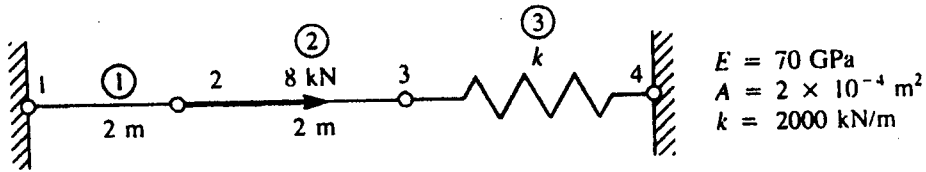

Fig. 2
- b) For the bar assemblage of two bars and one spring shown in Fig. 2, determine the nodal displacements at nodes 2 and 3, force induced in element 2 and the support reactions. [5+9=14]